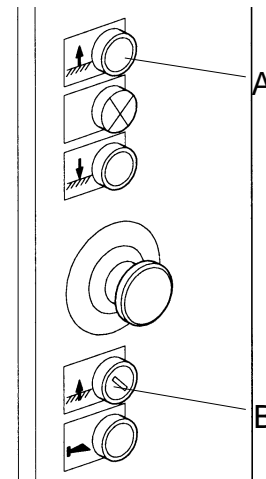

Fig.6-11 Control buttons
1. Press the push-button "reset positioning" (fig.6-11, A) and keep it pushed in.
2. Press the push-button "UP" (fig.6-11, B).